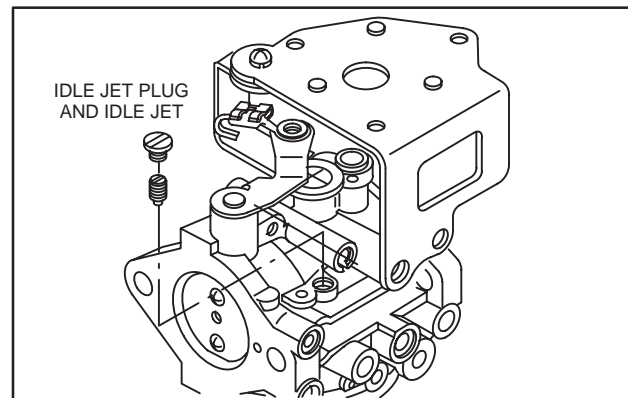

Fig. 35 – Removing Idle Jet
10. Remove idle jet plug and idle jet, Fig. 35.